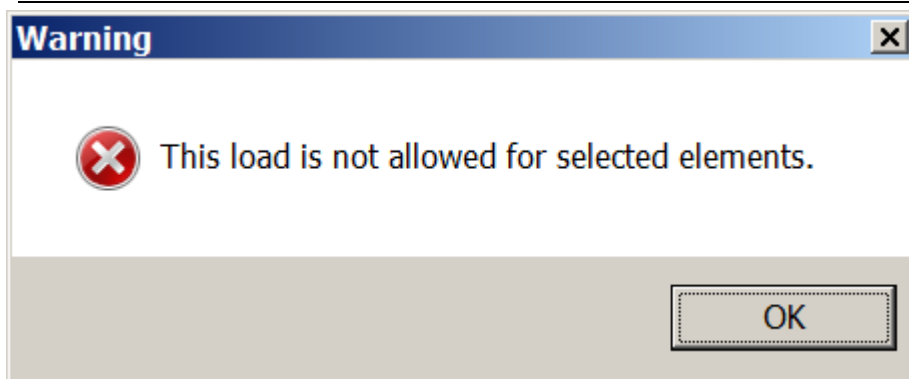

Figure 4.25 Warning message box
- ⇒ The **Warning** message box is displayed (see Fig.4.25). Click **OK**.